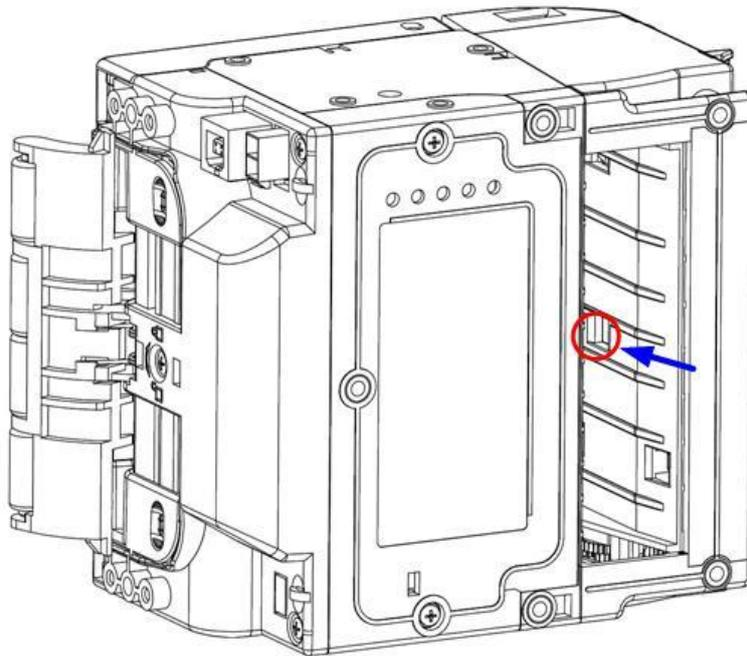

Fig. 5.3-1 Retraction sensor cleaning
- Refer to Fig. 5.3-1, you can see the retraction sensor at the retraction path of Presenter. Wipe off the dust or stains on the sensor surface with a cotton ball dampened with alcohol;